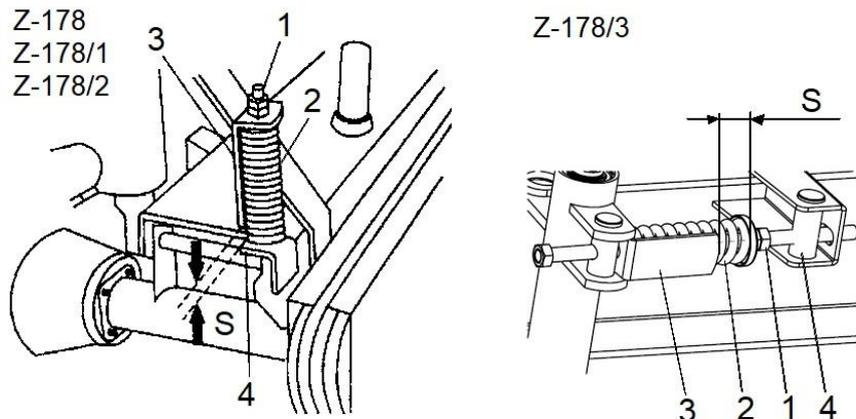

Fig. 16. V-belt tensioner: 1 - adjustment nuts, 2 - tightener spring, 3 - tightener indicator bar, 4 - tightener bracket, S (dimension) = 0.5-3 mm.
The mower is equipped with spring V-belt tensioner which is fitted with spring tensioning indicator (3) (Fig. 16). Belts are properly tensioned if gap between indicator (3) and tensioner bracket surface (4) (dimension S) is 0.5 - 3 mm. In case of damage or elongation of at least one belt (in order to keep equal length) always replace the whole set of belts (all pcs with the same dimension marking and trademark).